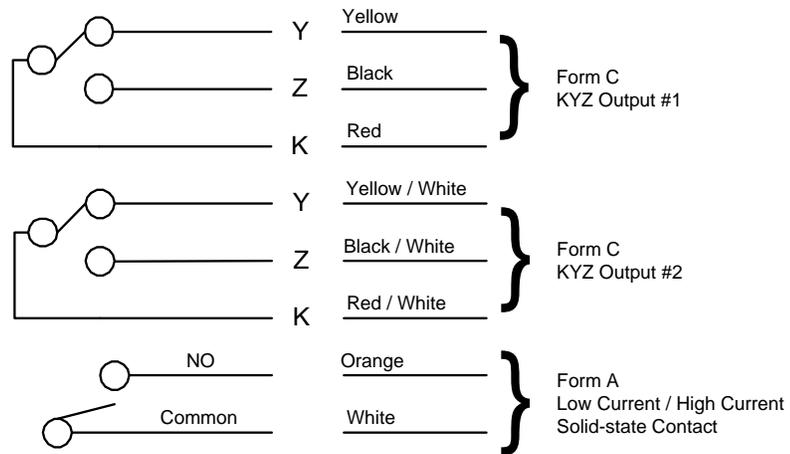

Figure 1.6 Input/Output Option 2 & Supplemental Option 1
- Option 2 has two Form C KYZ outputs and one Form A low-current solid-state contact output. (See Figure 1.6 on page 1-8.)